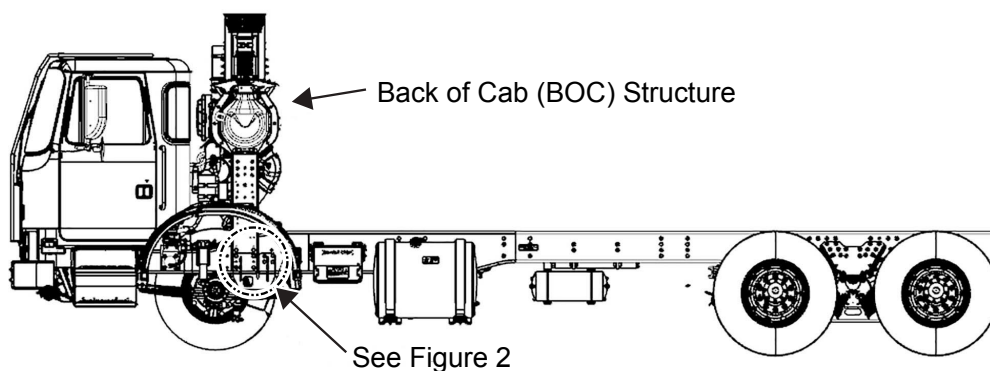

Figure 1
3. Using an appropriate lifting device, support the back of cab (BOC) structure (see *Figure 1*).